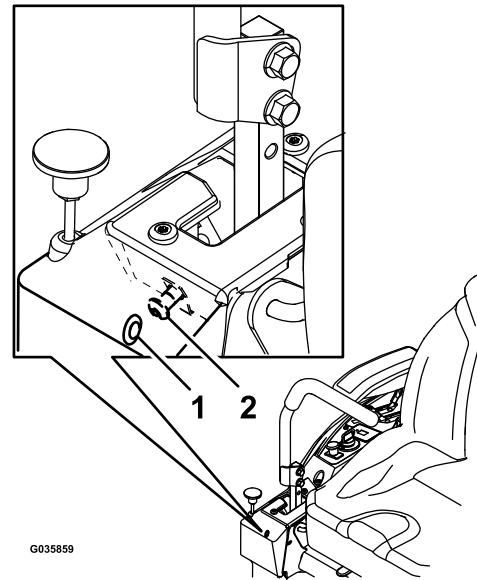

**Figure 55**
**Note:** The upper hoop of the roll bar may need to be pushed forward or pulled rearward to fully engage both knobs (Figure 54 and Figure 55).